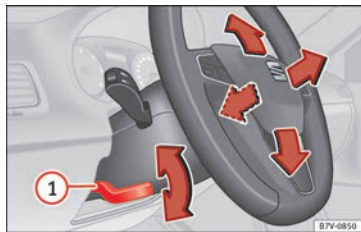

Fig. 24 Mechanical steering wheel adjustment
- Push the lever » » **Fig. 24** ① downwards.